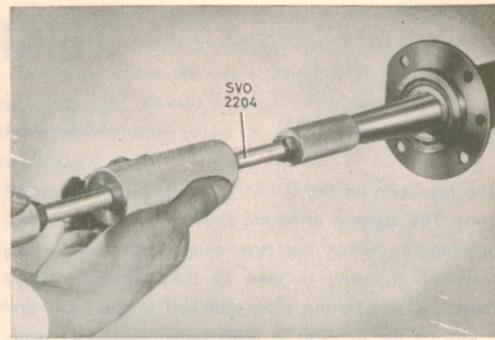

Fig. 5-2. Removing an axle shaft
2. Pull out the axle shaft, Fig. 5-2. Use puller SVO 2204.
2. Pull out the axle shaft, Fig. 5-2. Use tool SVO 2204. Check or replace the oil seal.
3. Remove the axle shaft (13). Use puller SVO 2204, see Fig. 5-2. If necessary, press out the roller bearing (15) from the shaft. Use tool SVO 1806 as a support, see Fig. 5-9.